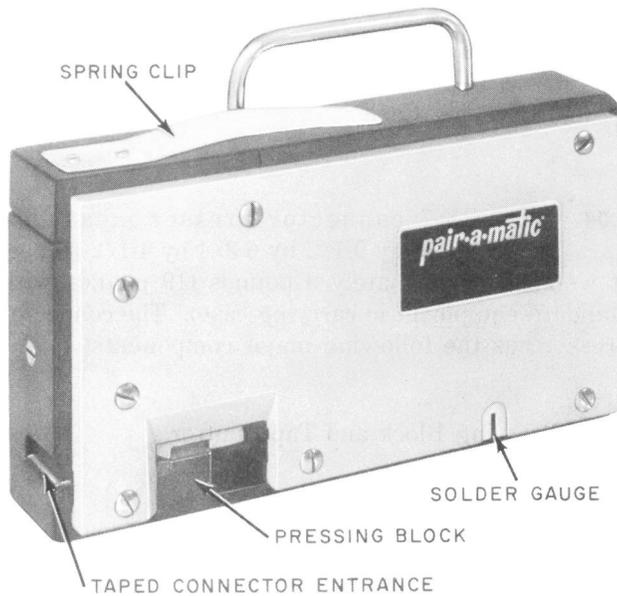

Fig. 14—CS-6 PAIR-A-MATIC Connector Presser—Front View
5.05 The superseded Model CS-6 PAIR-A-MATIC connector presser (Fig. 14 and 15) is similar in appearance and operation to the Model CS-7, except that it is foot-valve operated and has two air hose connections instead of one.